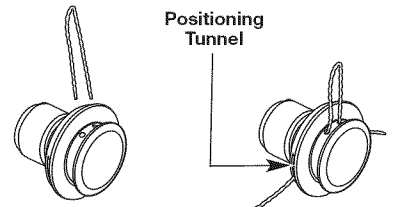

Fig. 24
- Insert both ends of your line through the proper holes in the side of the cutting head (Fig. 24).